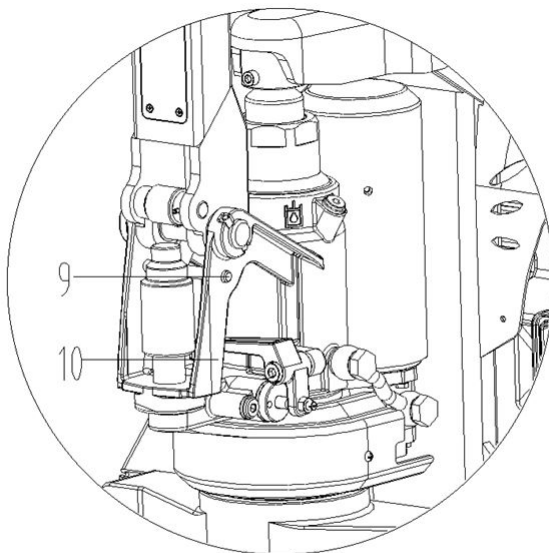

Figure 3
3. Refer to Figures 3 & 4: Take the entire handle assembly (part #5) and align the holes at the end to the holes on the body pump (part #10). Slide the large pin (part #2) through both holes. Thread the rod chain (part #8) through the hole in the large pin (part #2).